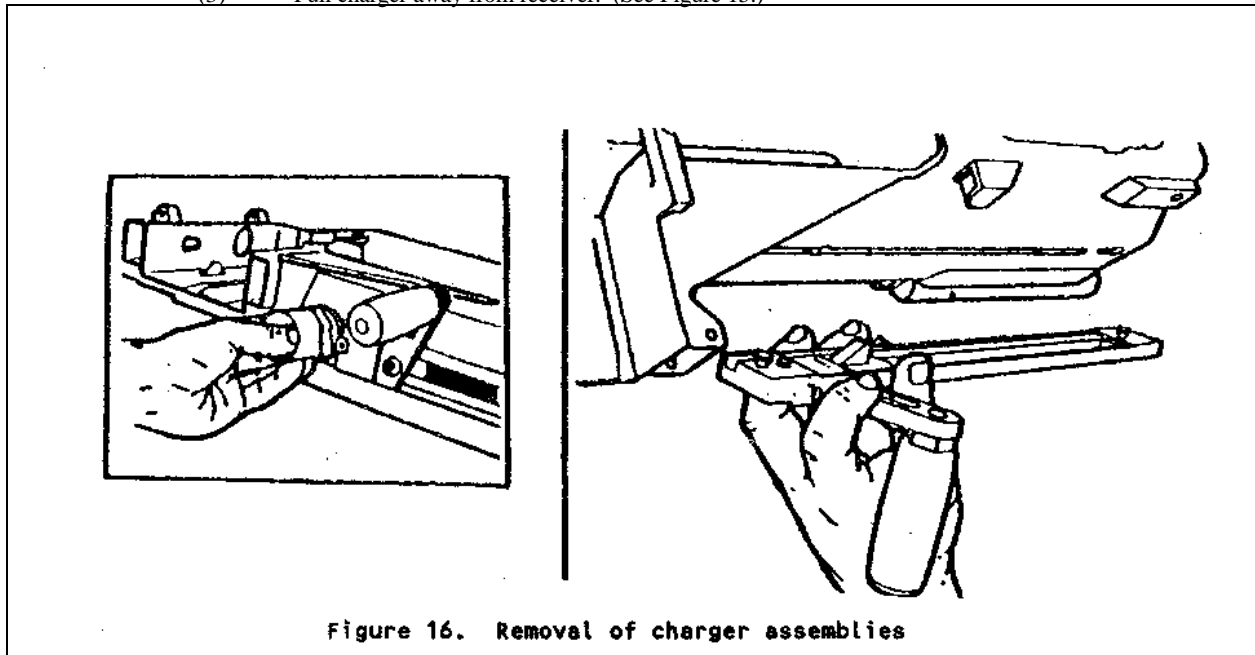

Figure 15. Removal of charger assemblies
- (1) Retract lock plunger with link or spent case. (See Figure 15.)
- (2) Slide charger all the way rearward.
- (3) Pull charger away from receiver. (See Figure 15.)